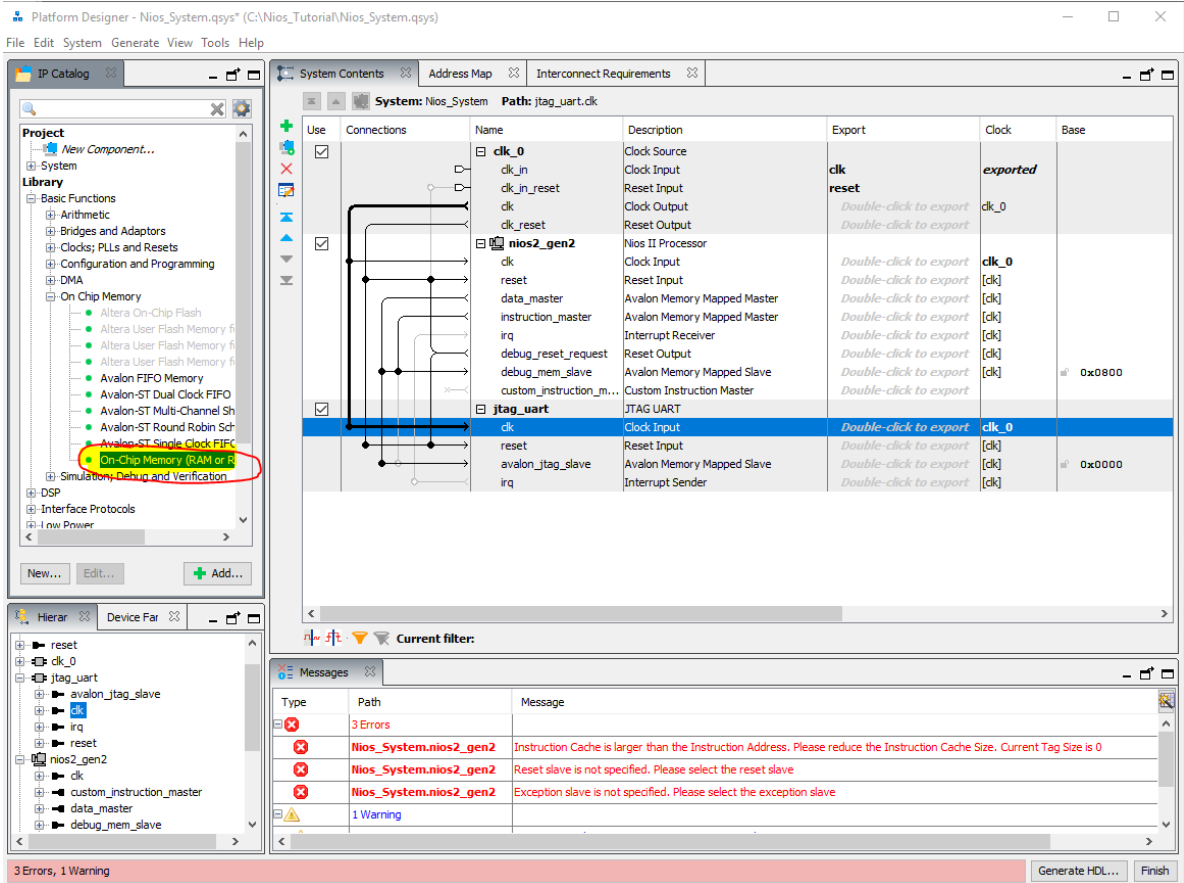

Figure 1-14 Adding On-Chip Memory
10.) Next, we will add the system memory through the on chip memory. Later we will change this to SDRAM. To add the on chip memory, choose **Library** → **Basic Functions** → **On Chip Memory** → **On-Chip Memory (RAM or ROM)** as shown in Figure 1-14 and 1-15.